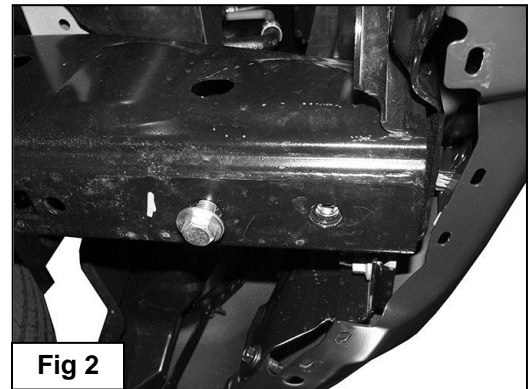

Fig 2
- a. Remove each tow hook by removing the front bolt and only loosening the rear bolt, **(Figure 2)**. Slide the tow hook off. Keep the factory double nut plate in the frame and aligned with the holes. **NOTE:** Tow hooks cannot be reinstalled.